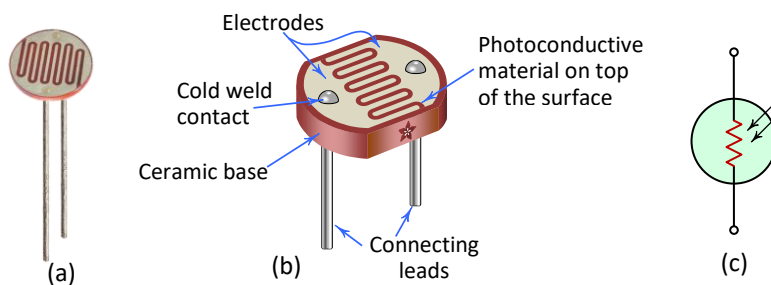

Fig.1-35: LDR (a) Photograph, (b) Different components, and (c) Symbol
**Photo resistor** or **LDR** (Light Dependent Resistors) or **Photo Conductive Cell** is a variable resistor whose resistance is changed depending of the light falling on its surface. Light Dependent Resistors, LDRs are also called photo resistors. These resistors are made up of high resistance semiconductors which are capable of absorbing photons. Depending on the intensity and frequency of incident light, bound electrons in the semiconductor jump into the conduction band, therefore decreasing the resistance. The semiconductors commonly used to make photo resistors include cadmium sulfide, cadmium selenide, lead sulfide, lead selenide, and indium antimonide. Several countries have now banned photo resistors made from cadmium or lead as these photo resistors may be harmful to the environment. The IEC standard symbol, and its construction are shown in Fig.1-35.